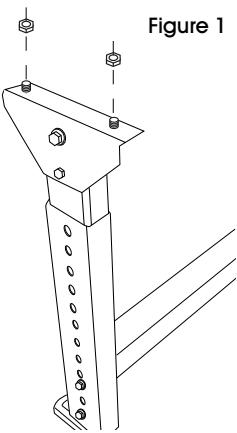

Figure 1
1. Hardware is pre-screwed into the tops of the H-Stands. Remove the hardware using a 9/16" (14 mm) wrench. (See Figure 1)